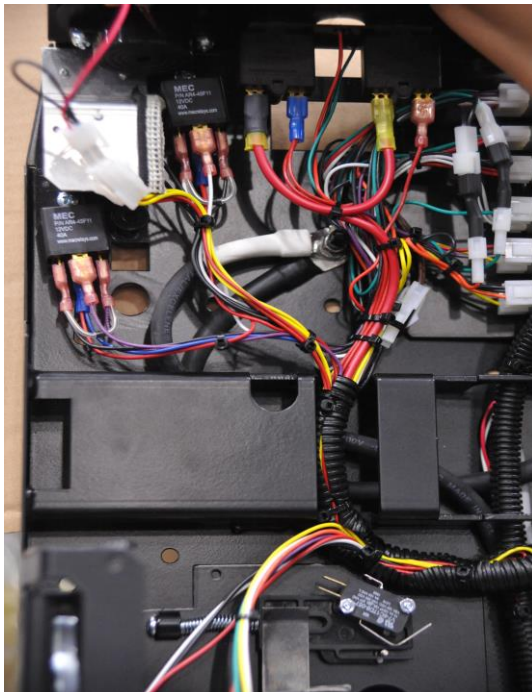

Fig 3.
1. Plug Buzzer Assembly connector to Main Harness, as shown in Fig 3.